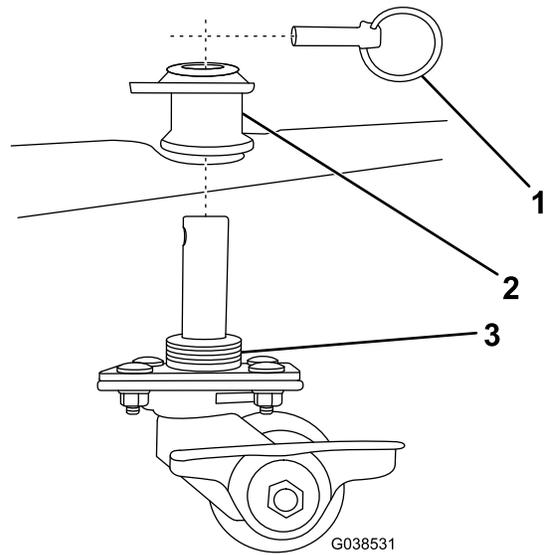

Figure 5
4. Slide the large caster shoes into the shoe holders on the plow and secure them with a quick pin (Figure 5).